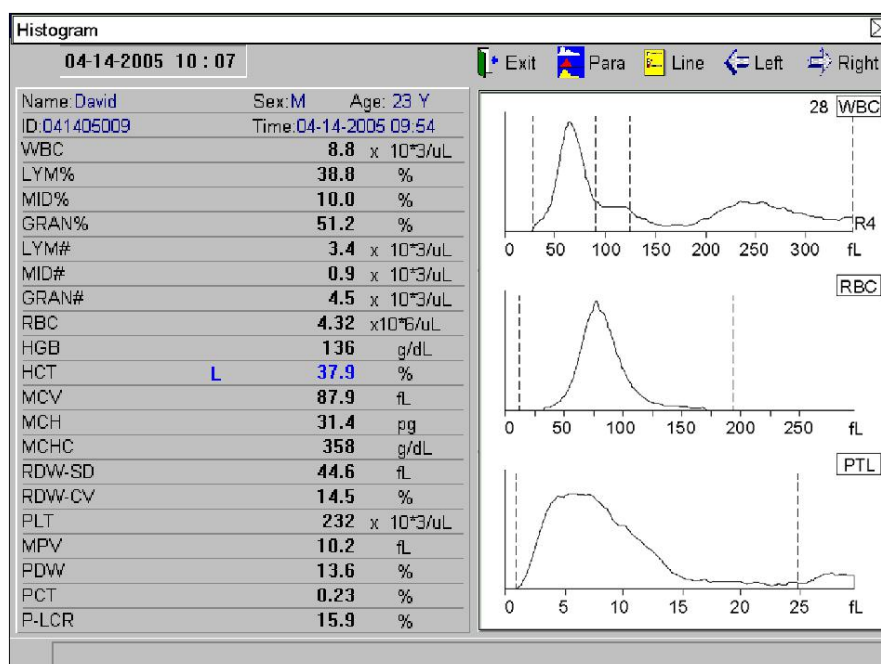

Figure 3-2
- In the blood cell analyze window empty area, press the right key of the mouse, pops up the menu, select **"Histogram"** in menu, the instrument accesses histogram adjust window, as shown in figure 3-2. Press **"Para"** button to adjust the histogram.